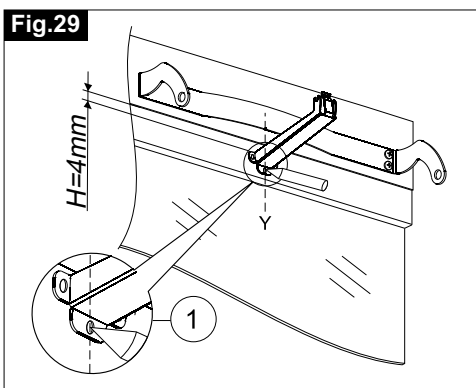

Fig.30
- 6) **Fig.30/31-** With a suitable drill, perform 3 holes of  $\varnothing 3.7$  on the wing and tighten the bracket with proper screws;